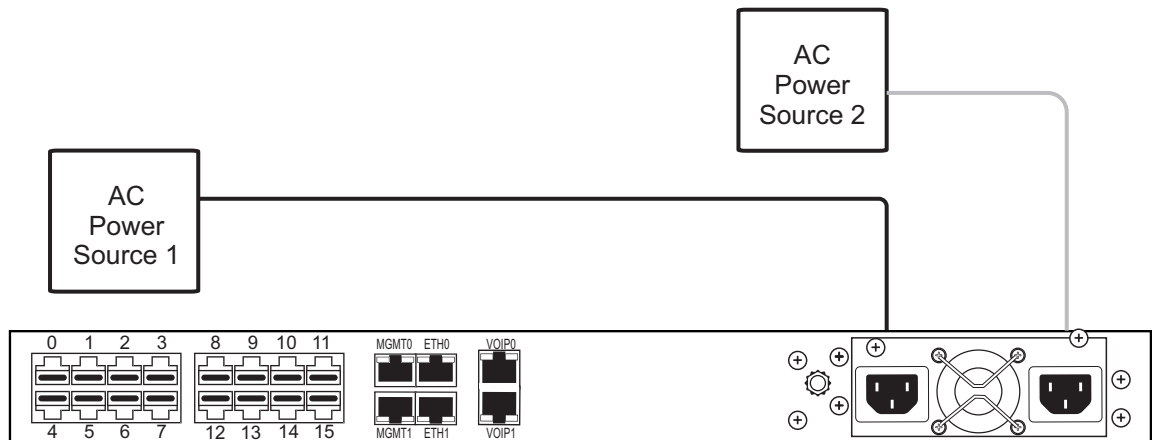

Figure 2.6
1. Connect an AC power cable to each AC connector of the 800 series gateway and an AC supply. See figure 2.6 on page 18.